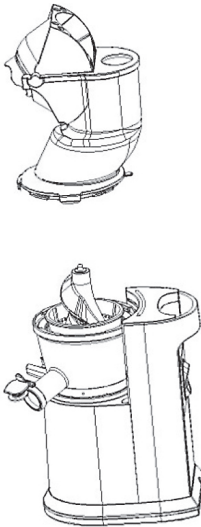

Fig. 4
a. Make sure the tilt-out triangle of the Food Chute is aligned with the unlocked sign on the bowl. (Figure 4)